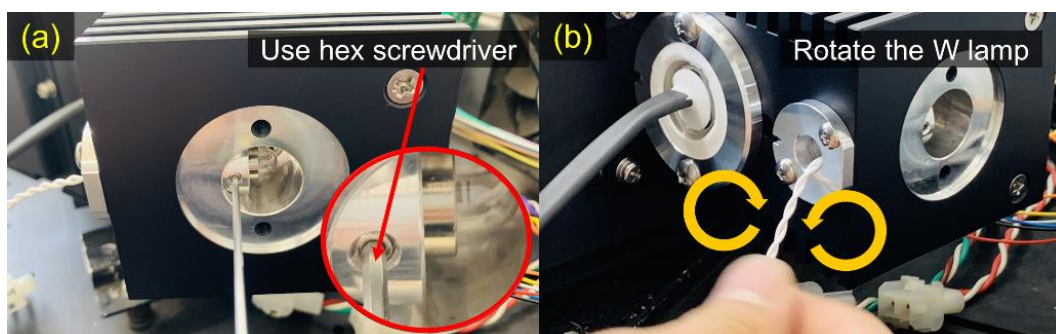

Figure 4. How to remove and replace the W lamp.
3. Slightly loosen the headless hex screw as shown in Figure 4-(a) and remove the old W lamp.
4. Insert the new W lamp and adjust (rotate) the position of W lamp to find the correct position (as shown in Figure 4-(b)).
- b. Slightly loosen the headless hex screw as shown in Figure 4-(a).
- c. Adjust (rotate) the position of W lamp to find the correct position as shown in Figure 4-(b).